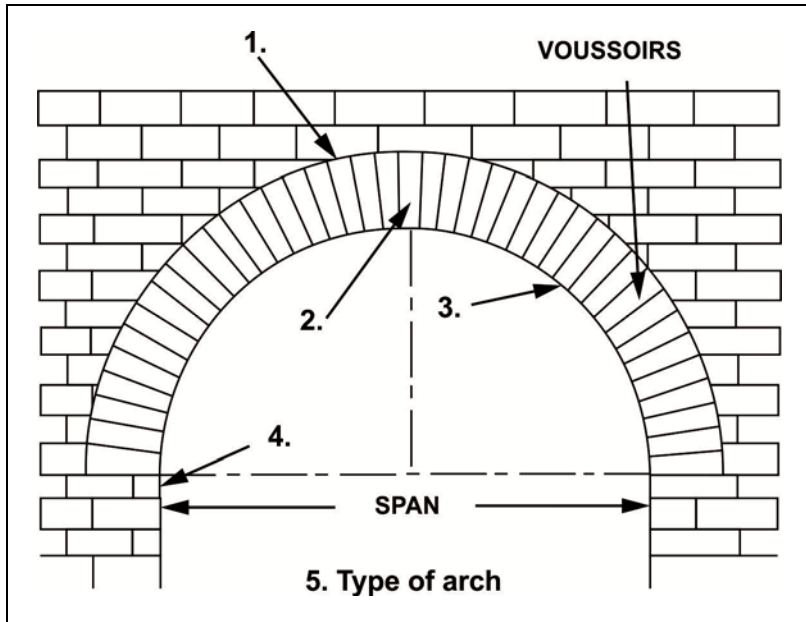

Figure 2.6
2.6 FIGURE 2.6 below shows a diagram of a certain type of arch. Write the numbers 1 – 5 down below one another and state the name of the specific part of the arch and type of arch.